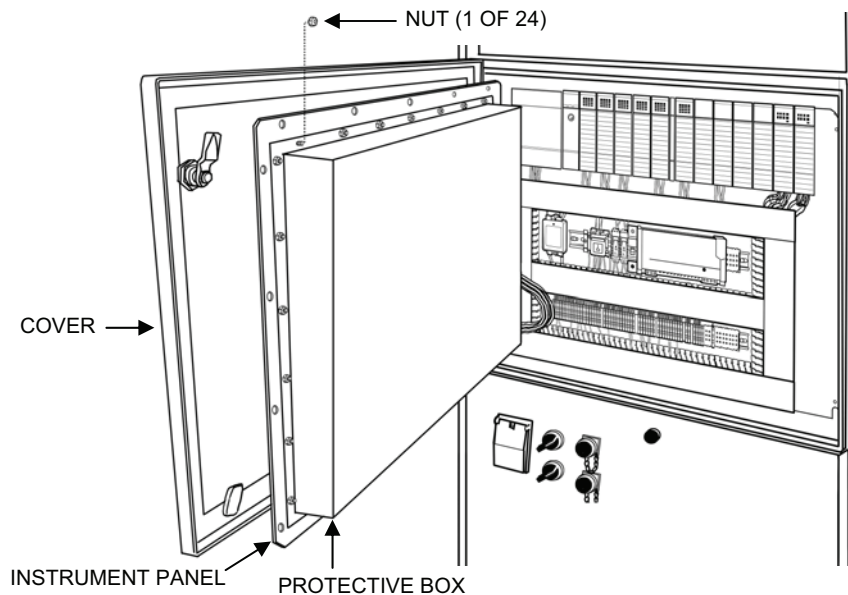

Figure 2. Box Removal from the Back of the OCP Instrument Panel.
3. Remove the 24 nuts that secure the protective box to the back of the OCP instrument panel and lift the box off (see Figure 2).